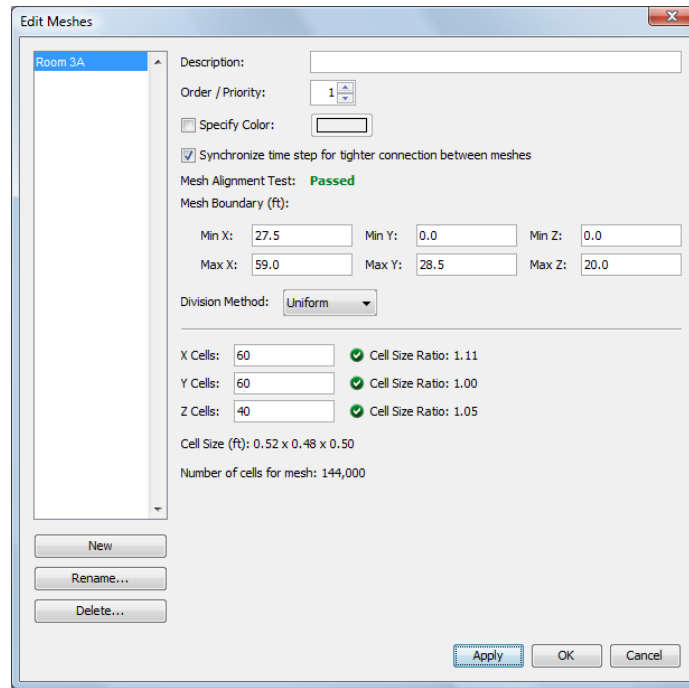

Figure 7.3. Input to create the mesh
- In the **X, Y, and Z** cell boxes, enter 60, enter 60, and enter 40 respectively, as shown in Figure 7.3. The FDS solution is optimized when the mesh cell division is defined by a number that can be formed using multiples of powers of 2, 3 and 5. These divisions give a cell size of approximately 0.5 ft (0.1524 m).